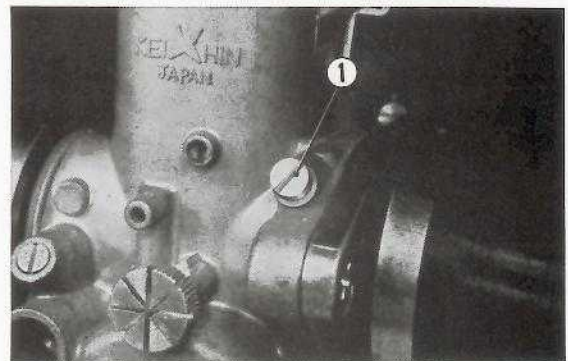

Fig. 6-16 ① plug
② Throttle stop screw
- a. Stop the engine and remove the plug of adapter attachment hole on each carburetor bodies. Attach the adapters of vacuum gauge to all carburetors: the long adapters A are for inside carburetors and the short ones for outside carburetors. Fit the vacuum gauge hose securely on the adapters. (Fig. 6-16, 17)